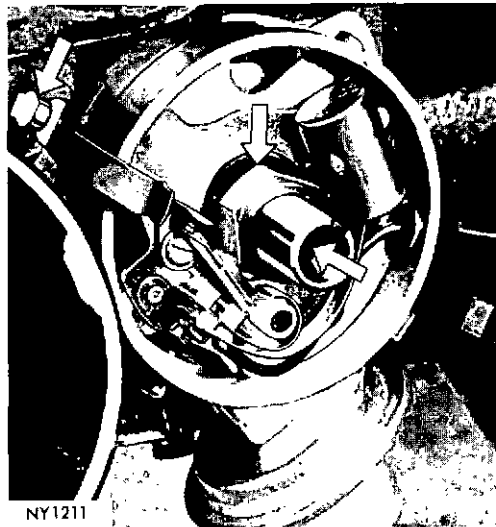

Figure 41 — Distributor Lubrication Points (Typical)
The distributor (Figure 41) should be lubricated at three points: (1) Oil cup on the side of the distributor if so adapted;